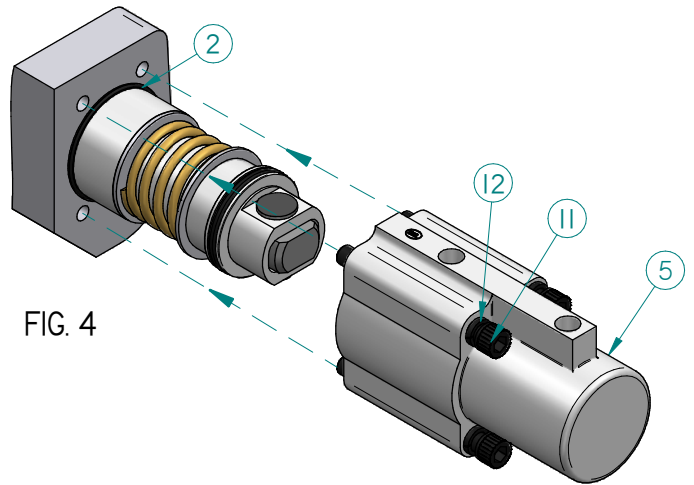

FIG. 4
3. Slide the cylinder (5) over the complete shift assembly, ensuring that the o-ring (2) is in place. Insert the four supplied 5/16-18x3.75" socket head screws (11) with lock washers (12) through cylinder mounting holes and progressively tighten to 15 ft.lbs/ 20 N.m.(See Fig. 4).